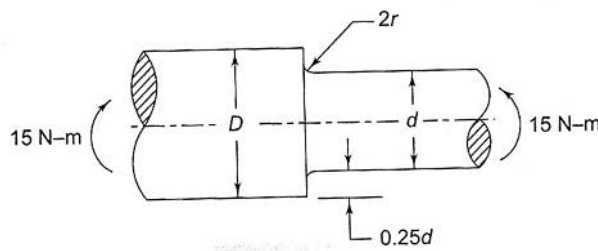

Fig.1
b) A round shaft made of brittle material and subjected to a bending moment of 15 N-m is shown in **Fig.1**. The stress concentration factor at the fillet is 1.5 and the ultimate tensile strength of the shaft material is 200 N/mm². Determine the diameter d , the magnitude of stress at the fillet and the factor of safety.